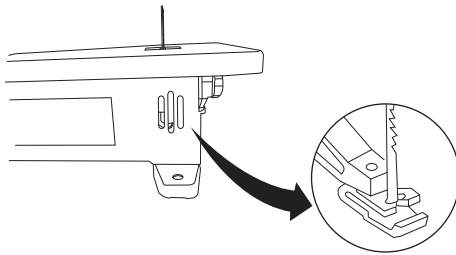

Fig. 14
- > Replace the protective guard (1) referring to the previous section “mounting the protective guard” on page 12 & 13.
- > Install the blade by inserting one end of the blade through the slot in the table then the access hole in the table until you can hook the blade pin in the pin recess in the bottom blade holder. Slide the top blade pin into the pin recess of the top blade holder. You may need to press down lightly on the arm to install the blade. (Fig. 14 & 15)